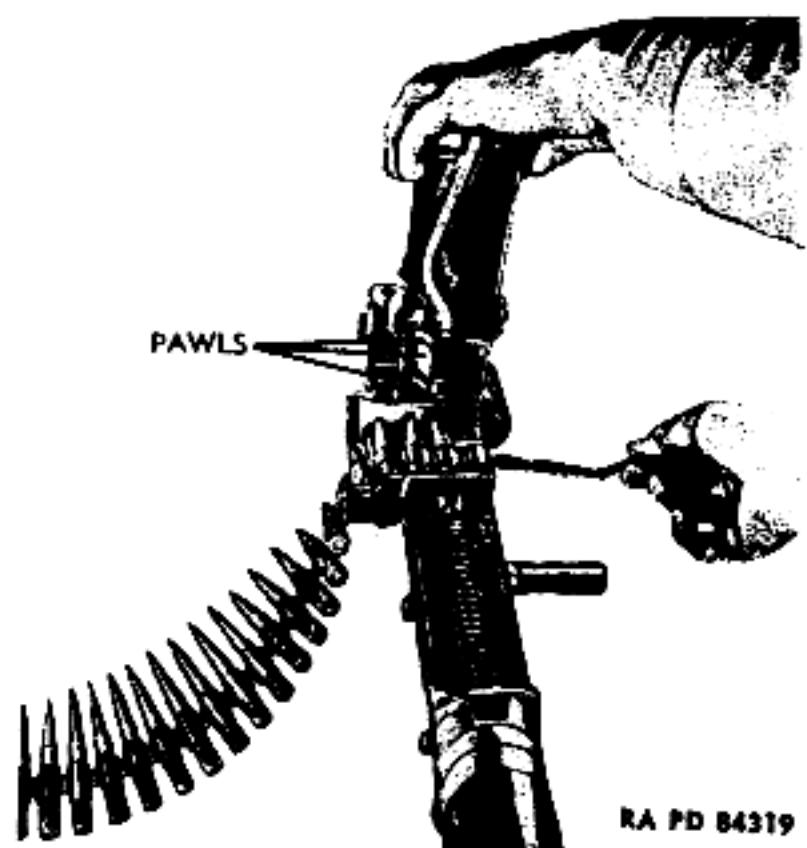

Figure 20 - Closing of Feed Cover
(4) Close the feed cover, making certain that the three pawls on the underside of feed cover engage the first round (fig. 20), that is, the three pawls are between the first and second rounds.